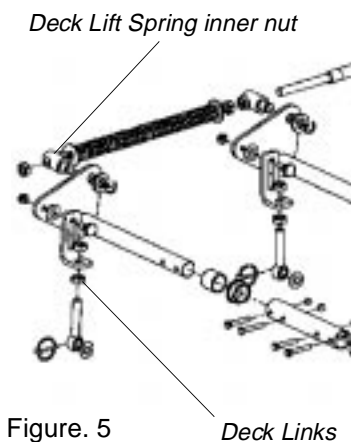

Figure. 5 Deck Links
- If the dimension at the front of the mowing deck is 1/8"-1/4" lower than the dimension at the rear of the deck on each side of the mower, do not adjust. If not, you will need to adjust the Deck Lift Spring Assist (See Figure 5). You may also need to adjust the Deck Links (See Figure 5).